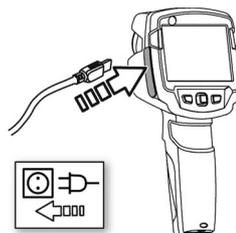

Figure 6 – Charging the Battery
2. Connect the USB cable to the thermal imager USB Interface (Figure 6).
Press OK key to open the menu. Move the Joystick up/down to highlight a function (red border) (Figure 6). Press OK key to select the function. Move the joystick to right to open the submenu (marked with >). Press OK key to select the function.